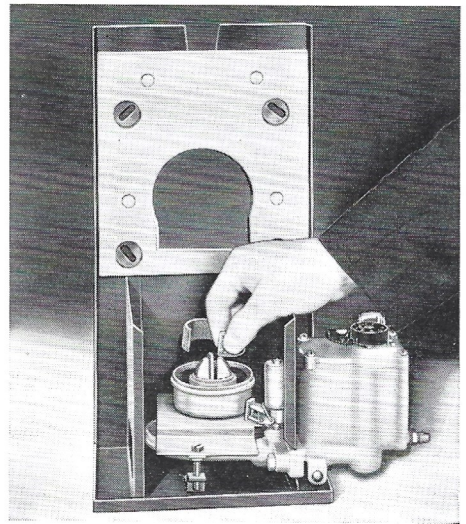

Fig. 11. Placing Lighting Wick
- (f) Place a lighting wick in the burner well (Fig. 11.)